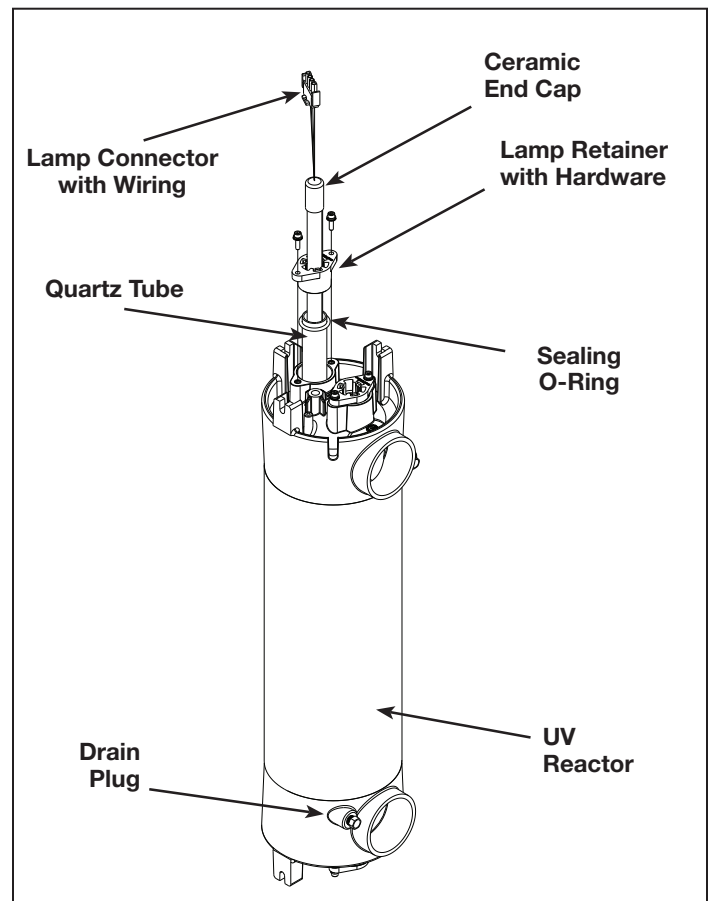

Figure 7. UV Reactor Sub-Assembly
3. Before continuing, allow adequate time for the quartz tubes to cool. Drain the water from the UV reactor by removing the drain plug. Replace the plug once water has stopped exiting the UV reactor. See Figure 7.
4. Grasp the UV lamp wires and gently pull until the top of the UV lamp has pulled past the lamp retainer tabs. See Figure 7.
6. After removing the lamps, remove the top lamp retainer screws using the hex key included in the parts bag. Place the lamp retainer screws, washers and the lamp retainer aside in a safe place. See Figure 7.
7. Grasp the quartz tube from the top of the UV reactor. Pull to remove it from the UV reactor. See Figure 7.
8. Remove the sealing O-ring from the top of the quartz tube. Set aside in a safe place. See Figure 7.